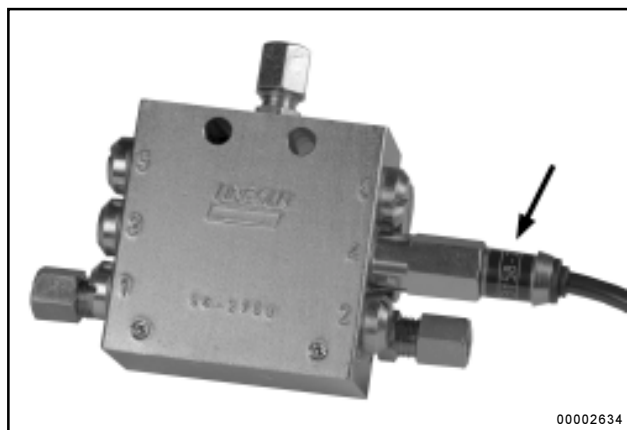

Fig. 20 - Piston detector
- If there is **no switching off signal** from the piston detector (fig. 20) to the printed circuit board within 30 minutes a **fault signal** will occur (see Display of the membrane key pad).